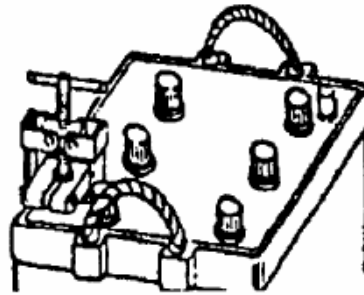

Figure 3-9
- (2) Remove negative (-) terminal clamp from terminal post using terminal puller (See Figure 3-9); install battery cable lead identification label at this time if label is missing.